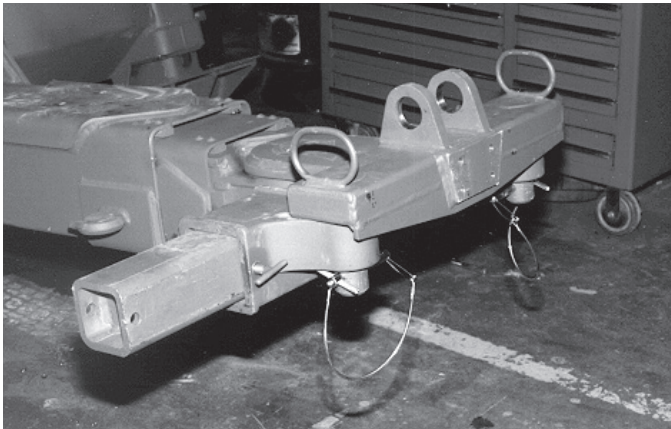

FIGURE 4A.19
- (c) Attach 5TH Wheel Adapter to pintle hook bracket with attaching pin and lock pin. See Figure 4A.20.